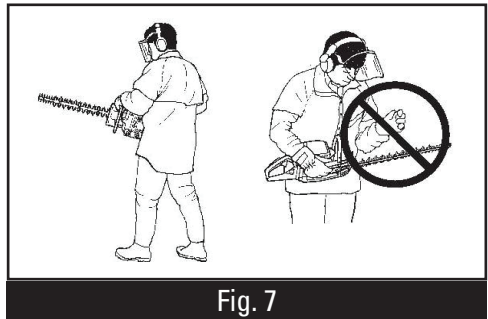

Fig. 7
- Make sure that your hands and feet do not come near the cutting attachment when the engine is running. (see Fig. 7)